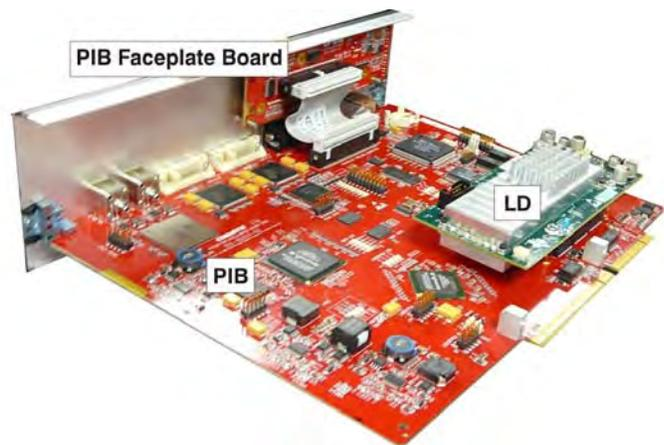

Figure 5-30 PIB, PIB Faceplate
4. Pull the PIB assembly out of the cardcage (**Figure 5-30**).